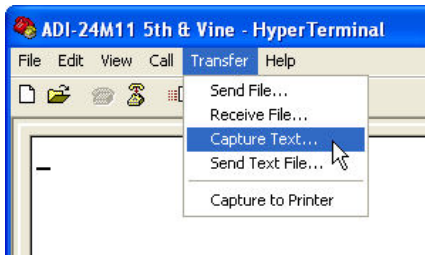

FIGURE 22
1. From the **Terminal Interface** window click **'Transfer'** menu then click **'Capture Text'**. See Figure 22 below.